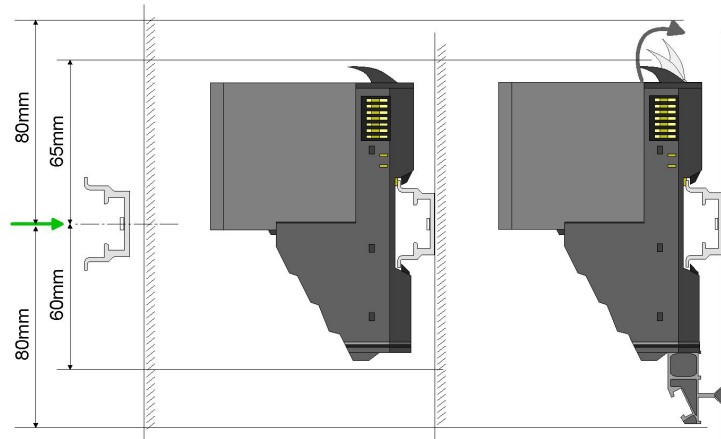

Fig. 6-5: Installation distances
- ➔ Install the DIN rail with the necessary distances (see Fig. 6-5: "Installation distances").